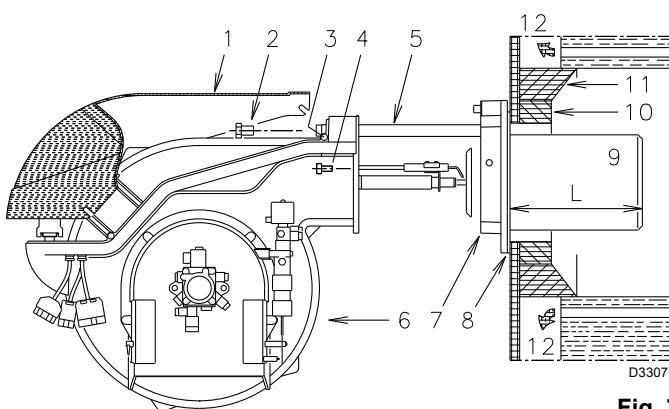

Fig. 7
4.4 Blast tube length (Fig. 7)
For boilers having a water-cooled front the refractory fettling 10)-11) (Fig. 7) is not required unless it is expressly requested by the boiler manufacturer.
Once this operation has been carried out (if it was required), secure flange 7) (Fig. 7) to the boiler plate interposing the supplied gasket 8). Use the 4 screws provided after having protected the thread with anti-seize products (high-temperature grease, compounds, graphite).
- Retract the burner on its slide bars as shown in Fig. 7 pag. 10.